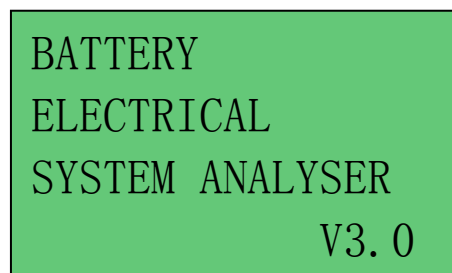

Figure 28
1. Make sure that the engine is switched OFF. Attach the clips onto the battery terminal posts and the analyser will power up and lights up the LCD display screen as shown (Fig.28).